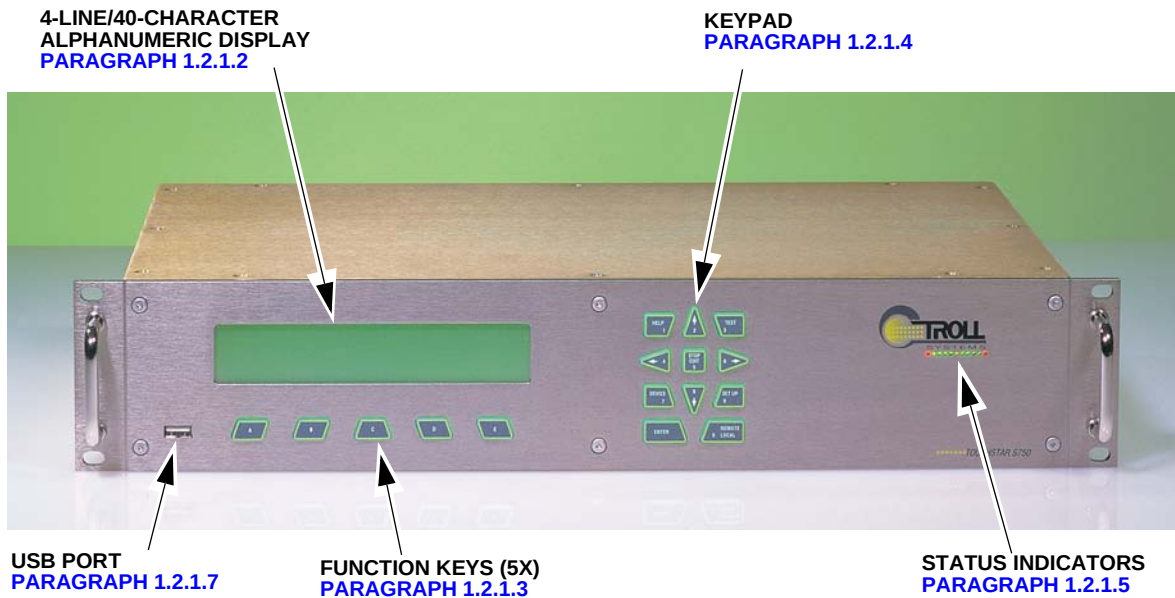

Figure 3–4. S750 Remote Site Controller – Front Panel Elements
The S750's front panel (Figure 3–4) includes five (5) key elements that are identified in the figure and discussed in the following subparagraphs. These items are summarized below.